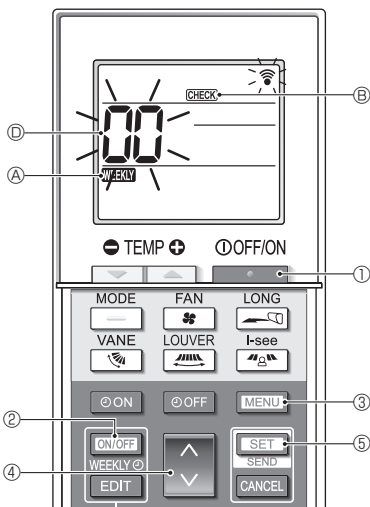

Fig. 7-2
7.2. Autovérification (Fig. 7-2)